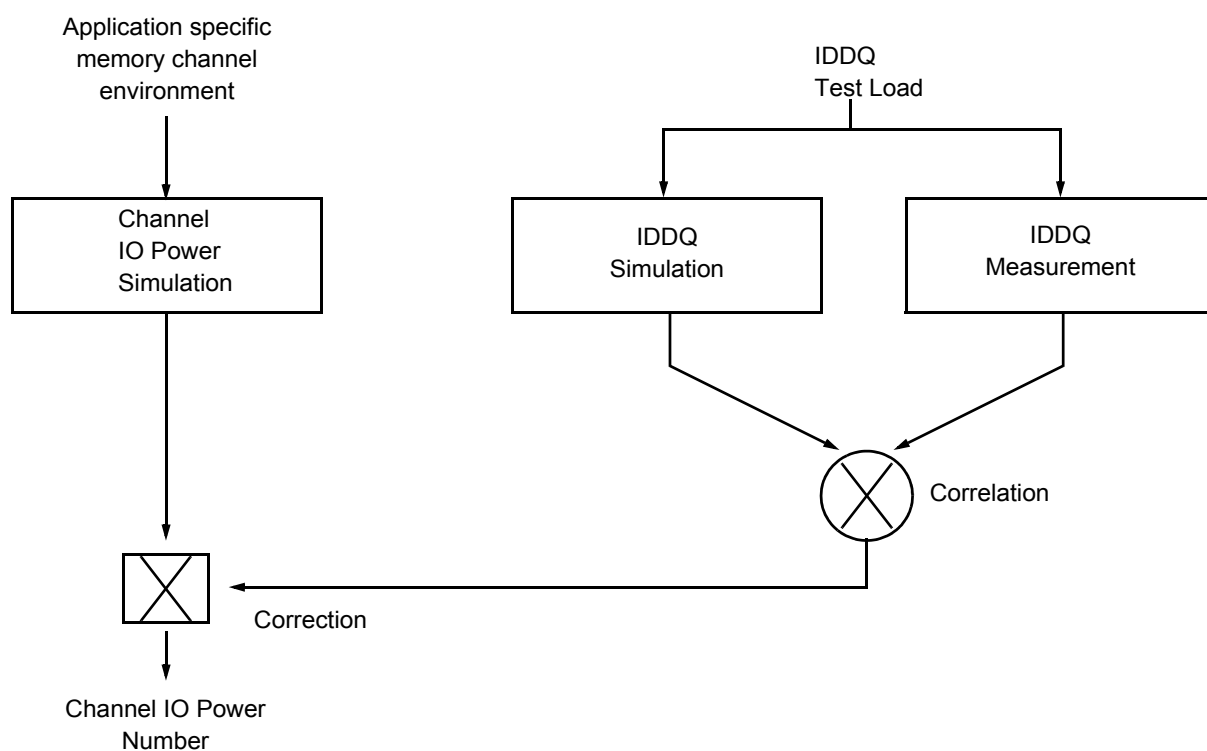

Figure 20. Correlation from simulated Channel IO Power to actual Channel IO Power supported by IDDQ Measurement.
**Attention** : IDDQ values cannot be directly used to calculate IO power of the gDDR3 SDRAM. They can be used to support correlation of simulated IO power to actual IO power as outlined in Figure 20. In DRAM module application, IDDQ cannot be measured separately since  $V_{DD}$  and  $V_{DDQ}$  are using one merged-power layer in Module PCB.